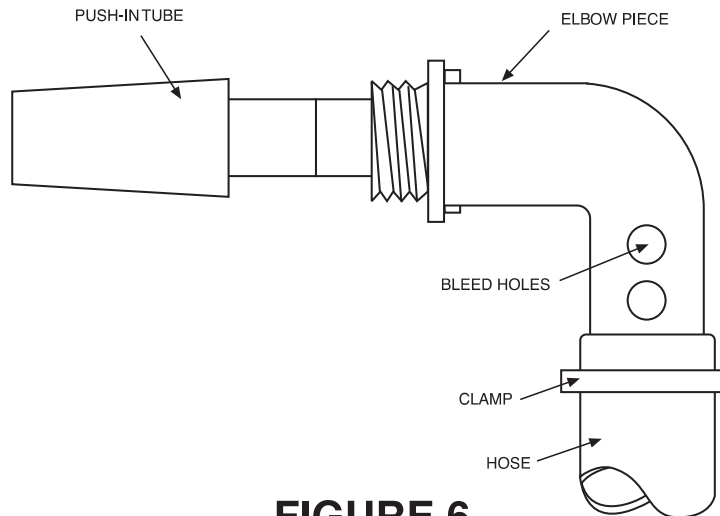

FIGURE 6
2. Refer to Figure 6. Push the small end of the Push-in Tube (12) into the threaded end of the Elbow Piece (6) until it is secure. This is your inlet adapter.
3. Refer to Figure 1. Uncoil the hose (3) and remove all twist. Using clamps (15), clamp one end of the hose to the back side of the fountainhead (1) and the other end to the inlet adapter from step 2. Cover one set of bleed holes with the hose (Fig. 6). To tighten clamp, grasp "tabs" between thumb and forefinger and squeeze. Tighten securely with a pair of pliers. To open the clamp, grip one "tab" of the clamp with pliers and twist loose.
4. Using the tie wrap (14), LOOSELY attach the anchor (4) to the hose (3). The anchor (4) should be attached to the hose (3) at a point as deep as the water plus approximately two feet. You will have to estimate what the water depth is where you want the fountain and add two feet. CAUTION: DO NOT CONSTRICT THE HOSE BY TIGHTENING THE TIE WRAP (14) TOO TIGHT.
6. Place the fountain assembly into the pool. Position the fountain in the desired location being careful not to crimp the hose (3).
Height adjustment is achieved by covering more or less of the bleed holes (Fig. 6) on your elbow piece (6) with the hose (3). The more holes covered, the higher the fountain and vice versa.